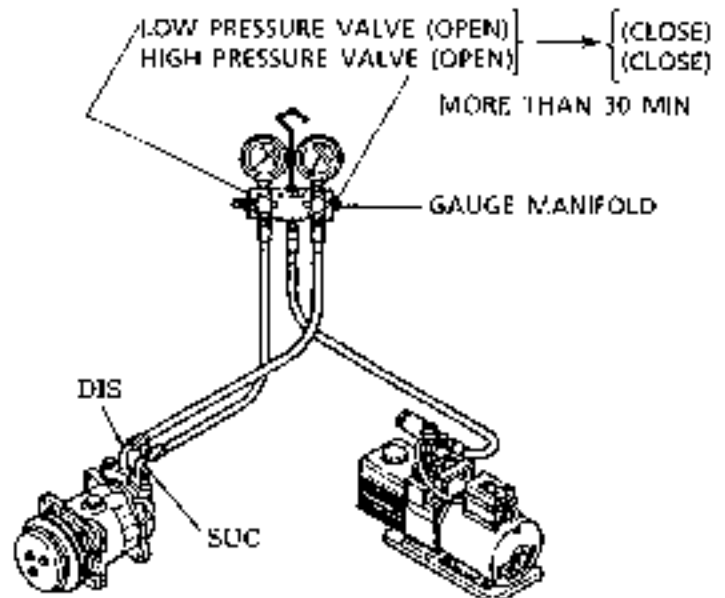

Fig. 25 Vacuum making operation
#### (2) Vacuum Making (See Fig.25.)